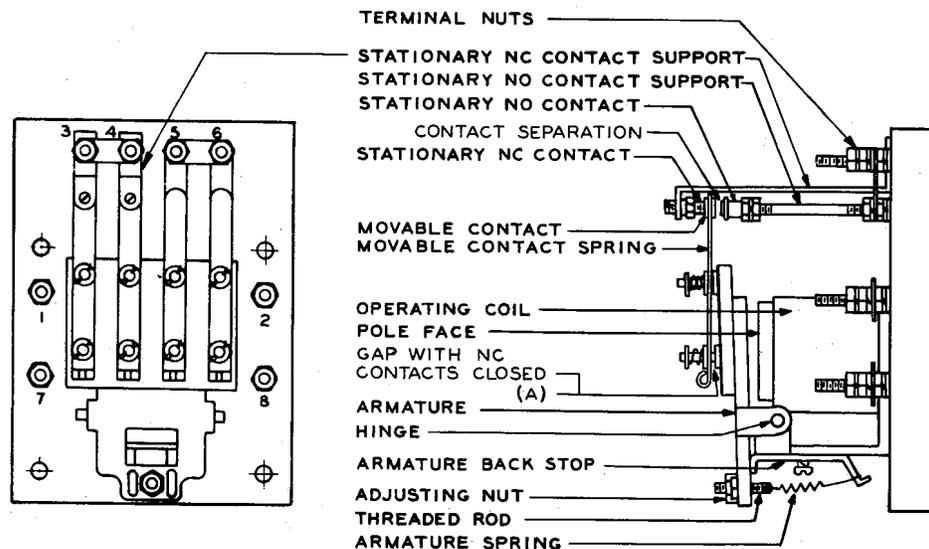

Fig. 1 - KS-15516, List 3 Relay
2.06 Contact Pressure: With a gap between the contact spring and associated armature bar as shown in Fig. 1(A), the pressure between closed contacts shall be